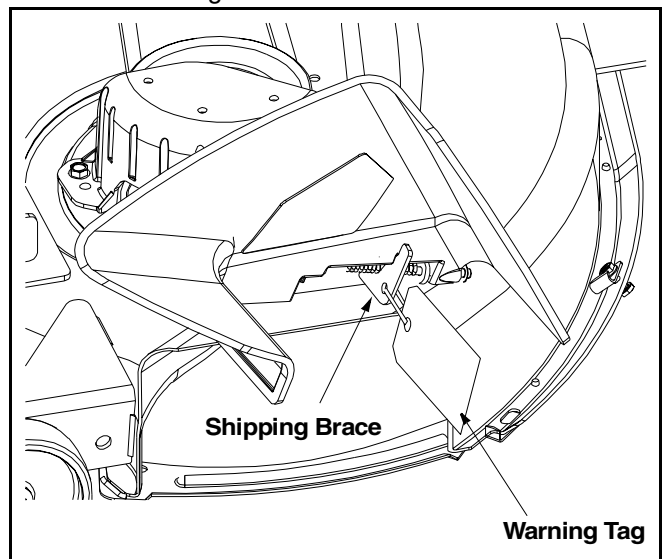

Figure 2
- On model GT-2150, locate the shipping brace and warning tag found on the right side of the cutting deck. See Figure 2.